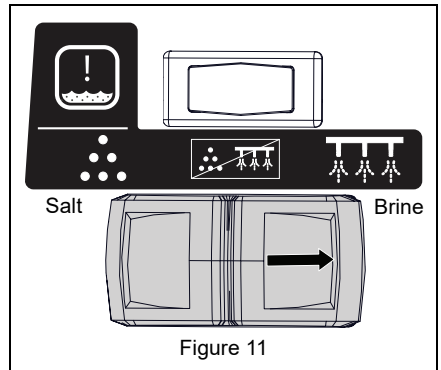

Figure 11
See Figure 11.
2. Move brine / salt switch to the brine position. See Figure 11.